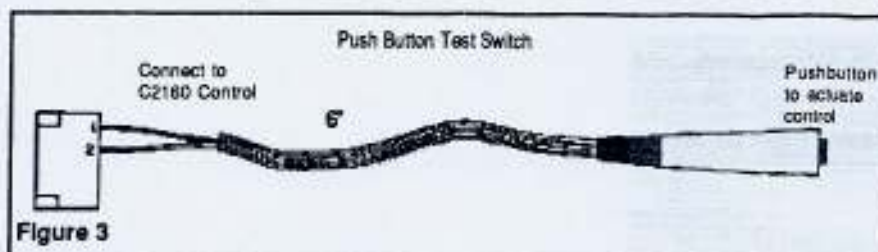
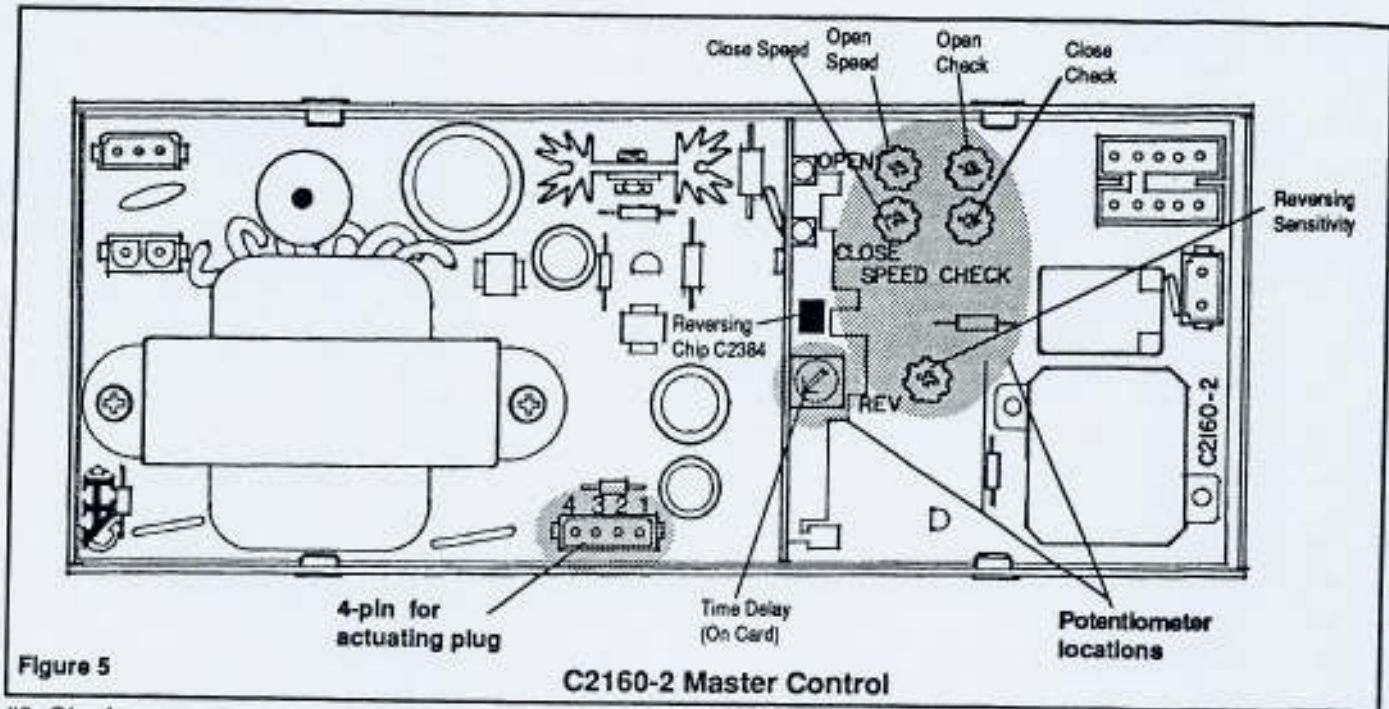

Figure 3
Figure 5
If there is operating power, insert a push button test switch (Figure 3) into the plug socket in the C2160-2 and depress the switch or use a jumper. The green LED should illuminate. If the door now functions, look for loss of electrical contact in the 4-pin plug actuating circuit (Figure 5), mats, motion detector, etc. or wiring to the switch. If the door does not work with this test, exchange the C2160-2 master control. If the door still does not work, proceed with the following tests.
1. Adjust at Potentiometer locations (Figure 5) on C2160-2 master control. Check limit switches and connecting harness. It is preferable to check switch with VOM.
1. Adjust at Potentiometers (Figure 5) on C2160-2 master control.